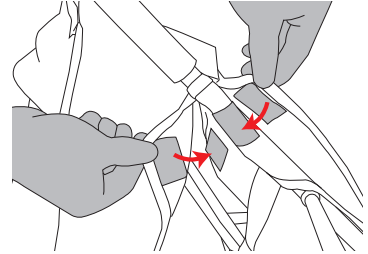

Figure 19
- Attach the Velcro on each canopy apron to the Velcro® on the sides and back of each seat. See Figure 19.